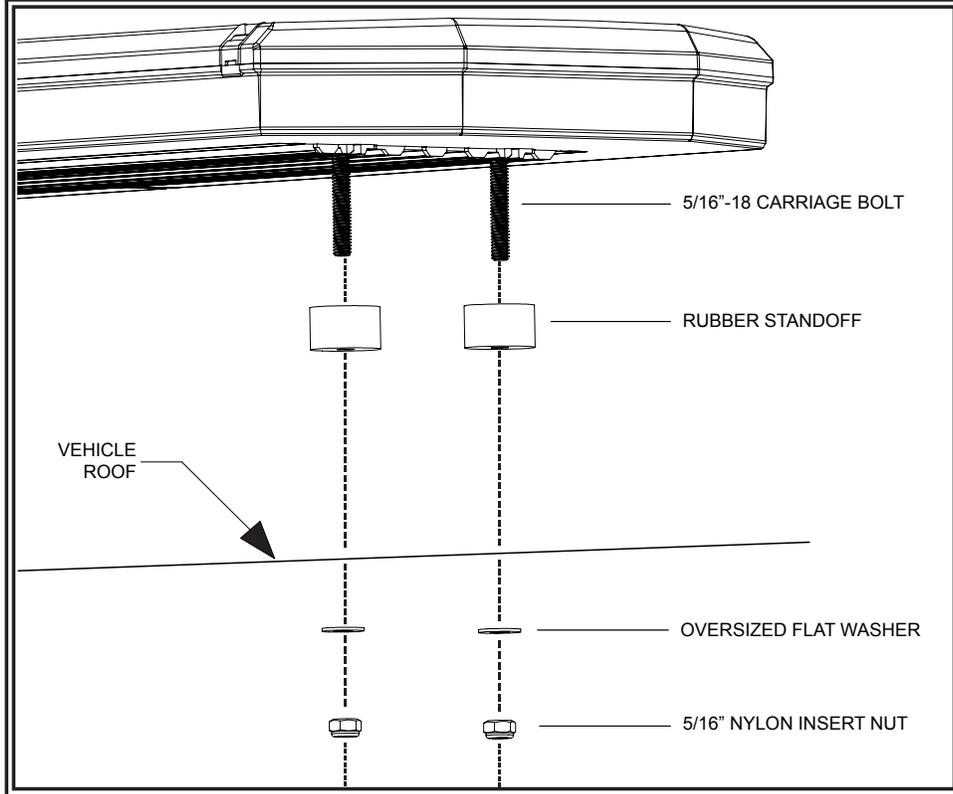

Figure 3
Step 4. Mount the lightbar as shown in FIGURE 3 and secure the unit. See the Wiring section of this manual for further wiring instructions.